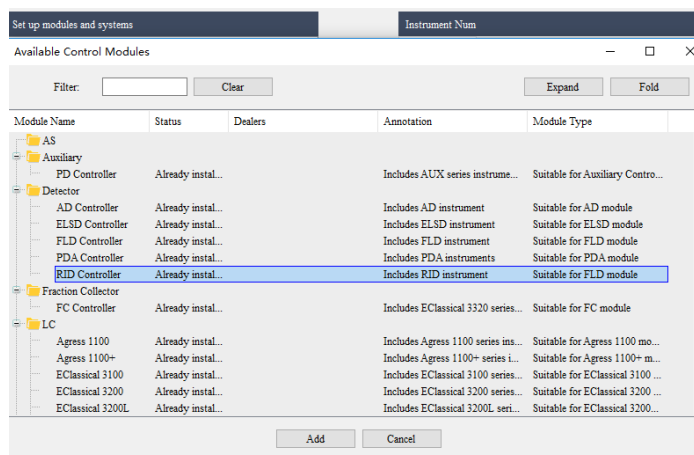

Fig.4-9 Configuration Interface 03
3) Click the "Add" button at the lower left corner of interface 4-8, and the interface as shown in Fig 4-9 will pop up: